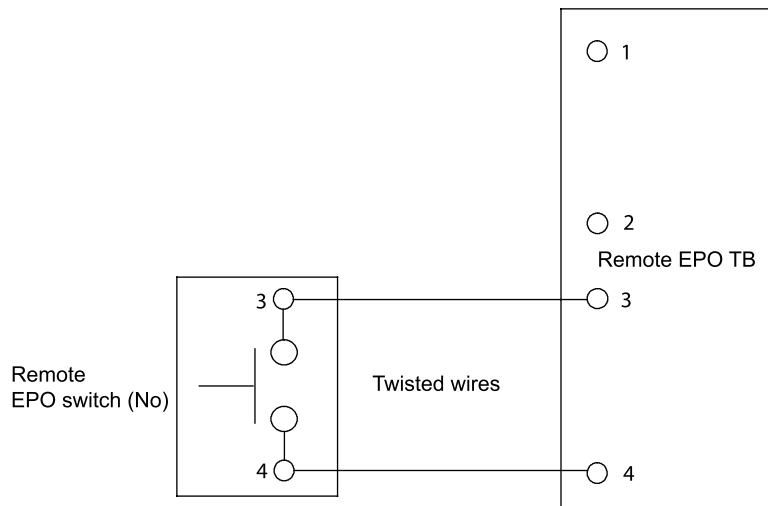
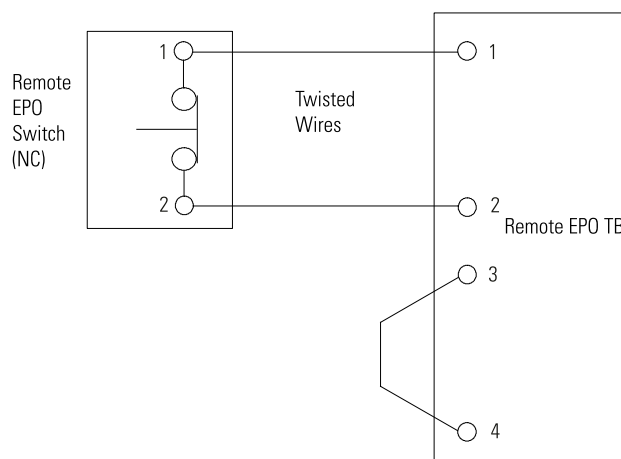

Figure 4-11: Normally-open remote EPO switch wiring
Figure 4-12: Normally-closed Remote EPO switch wiring
NOTE 4: This procedure is intended for installing the Eaton-supplied Remote EPO switch. If installing another manufacturer's switch, use this procedure, and Figure 4-11: Normally-open remote EPO switch wiring on page 34 and Figure 4-12: Normally-closed Remote EPO switch wiring on page 35 as a guide.
5. Connect the wiring as shown in *Table 4-4: Remote EPO connections* on page 34 and *Figure 4-11: Normally-open remote EPO switch wiring* on page 34 for a normally-open Remote EPO or *Table 4-4: Remote EPO connections* on page 34 and *Figure 4-12: Normally-closed Remote EPO switch wiring* on page 35 for a normally-closed Remote EPO.